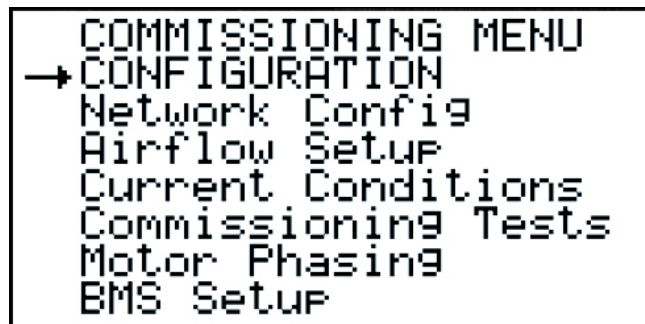

Figure 16
2.3.3.1 Commissioning (Figure 16)
Selecting the COMMISSIONING MENU from the Service Menu displays the COMMISSIONING MENU (Figure 16). This menu allows the operator to select the Configuration, Network Config, Airflow Setup, Current Conditions, Commissioning Test, Motor Phasing and BMS Setup. To return to the Service Menu, press the **Esc** key.